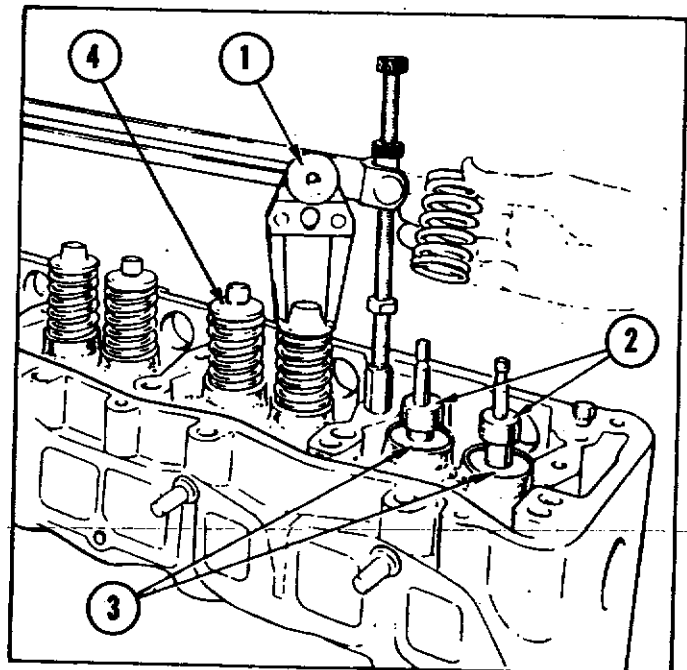

Fig. 30 Valve Replacement
- b. Turn the cylinder head onto its face and place the valve springs and retainers over the valve stems and oil seals locating the springs in the spring seats (See Fig. 30).